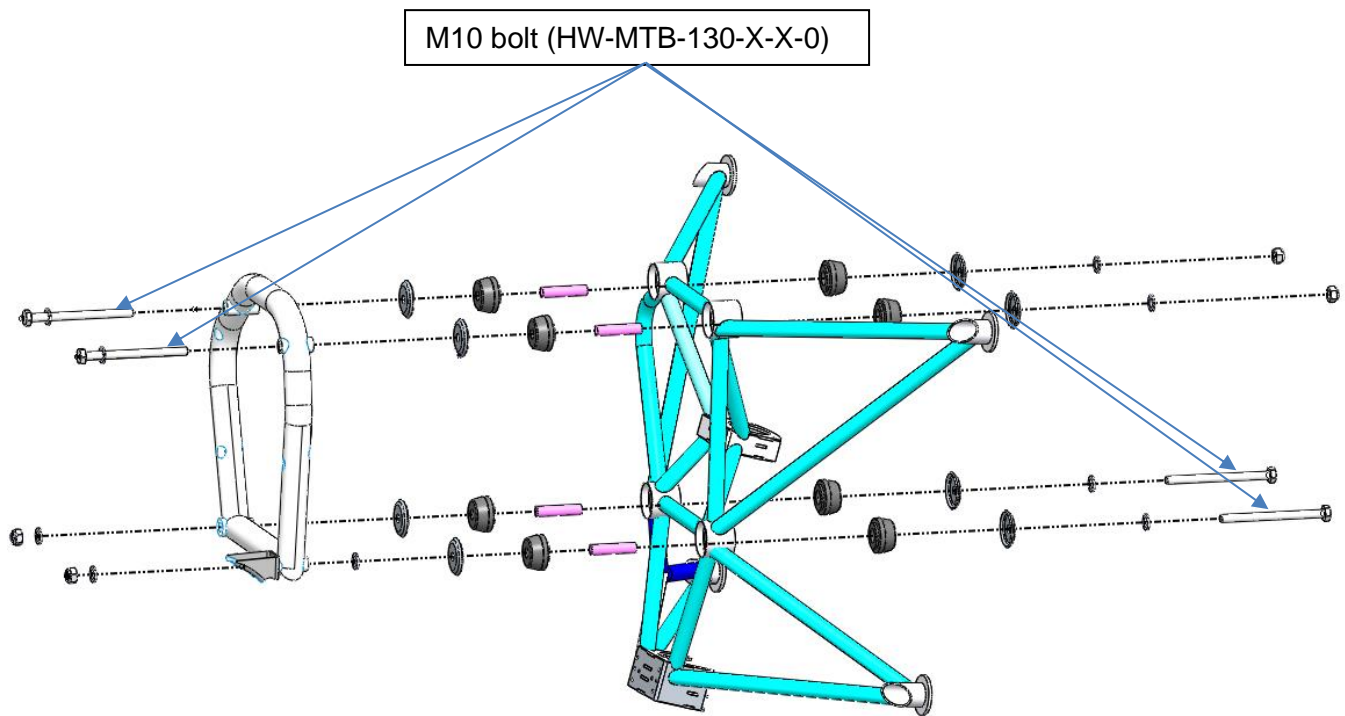

Figure 8: Sling 4 TSi engine mount to engine frame attachment
- Step 2: The four M10 bolts (HW-MTB-130-X-X-0) that mount the engine to the engine frame need to be replaced. These bolts can be seen in the exploded view of the engine mount in Figure 8.